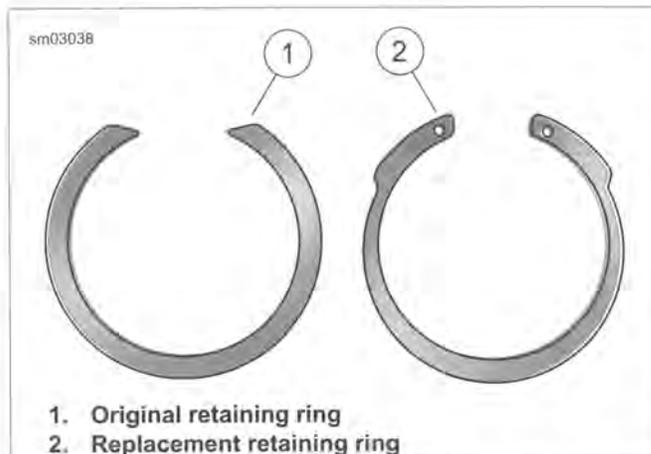

Figure 6-41. Main Drive Gear Retaining Rings
- See Figure 6-41. When replacing needle bearings, discard original retaining rings (1) and install replacement retaining rings (2).